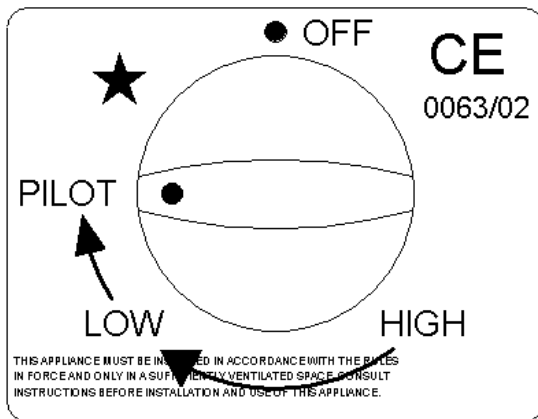

Fig 4e
*Step 3.* To turn the main burner off while keeping the pilot alight, rotate the operating knob back to the **PILOT** position. (Fig 4e)